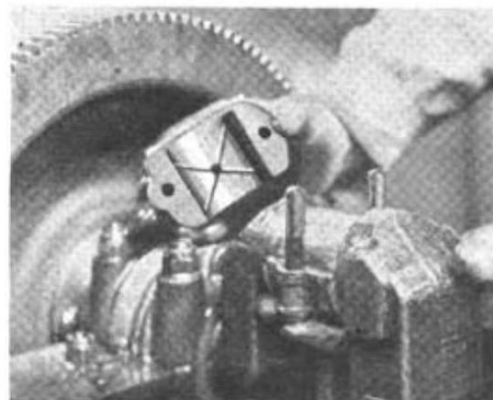

Fig. 7. In Removing Connecting Rod Caps Hold Rod and Bolts as Shown and Keep Shims in Place
1 and 4 are now accessible for removal. Remove cotter pins from nuts (2) of rod cap, No. 1, and with left hand hold rod as shown in Fig. 7. Back off nuts, and lift off cap. Lower rod with piston and slip-on cap and catch nuts. This method is recommended as it insures shims remaining in place and nuts on original bolts. Remove No. 4 rod in same manner then turn crankshaft through 180 deg. or a full half turn and remove rods with pistons 2 and 3.